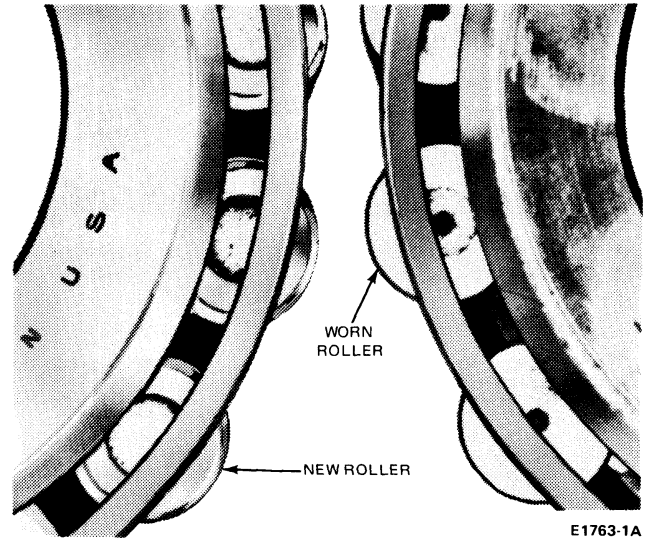

FIG. 4 Roller Bearing End Wear
11. Inspect the bearing races and rollers for pitting, galling or erratic wear patterns. Inspect the rollers for end wear. Replace the bearings if worn or damaged (Fig. 4).